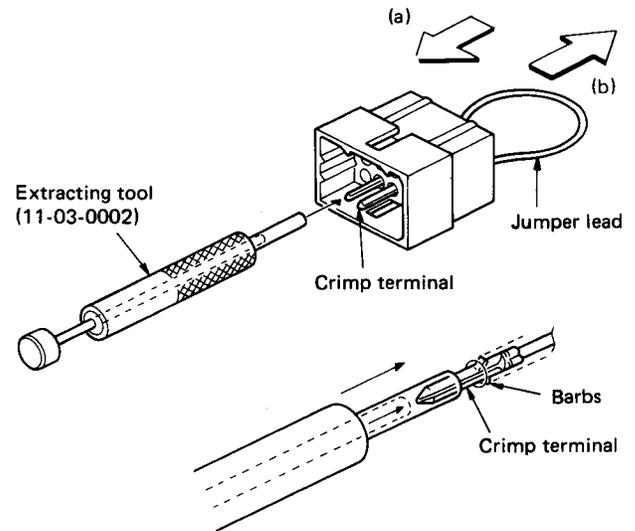

Fig. 2
**(Fig. 2)**
**REMOVING THE JUMPER LEAD (Fig. 2)**